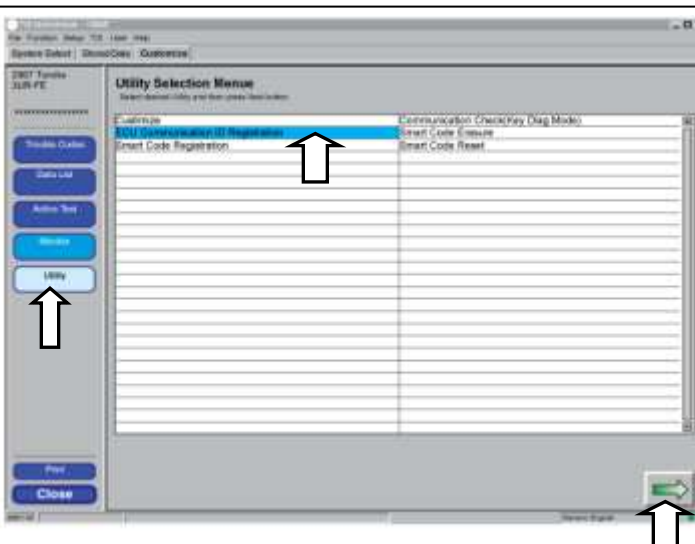

Fig. 5-12
- (v) Click “Utility.” (Fig. 5-12)
- (w) Select “ECU Communication ID Registration.” (Fig. 5-12)
- (x) Click . (Fig. 5-12)